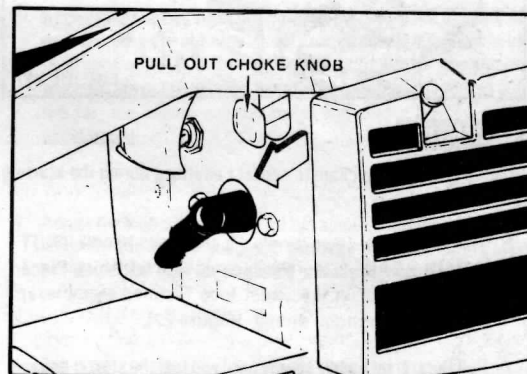

FIGURE 19
3. Pull the choke knob out (cold engine only). (Figure 19).